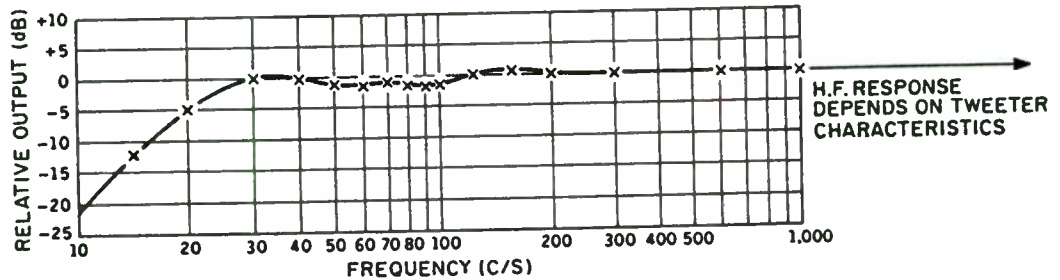

FIGURE 1: Dr. Bailey's Fig. 9 from his October 1965 *Wireless World* article. This graph was responsible for the birth of the B-Line.
On what was perhaps a whim, I revisited Dr. Bailey's original article in *Wireless World* ("A Non-Resonant Loudspeaker Enclosure Design," Oct. 1965). I was mainly interested in his Fig. 9 (Fig. 1 henceforth in this article), which showed the response curve of a commercial transmission-line (TL) system in which he was involved. He claimed the woofer had a free-air resonance of about 30Hz (in those days he said 30 c.p.s., since Hertz had yet to be honored).
Figure 1 shows a relatively smooth response to about 30Hz, rolling gradually off below that. At about 15Hz, it appears to be down about 12dB. He remarked that the resonant frequency of the speaker in the TL was just below 15Hz. The -10dB point seems to be about $0.52 F_{sa}$.
In Fig. 1, F_{sa} appears to be at 0dB. Immediately below that, the downward turn begins. F_3 appears to be at about $0.8 F_{sa}$, and F_{10} is about $0.65 F_3$. The point I'm trying to make is that Bailey's TL doesn't cut off at woofer F_{sa} , but, rather, about an octave below it.
There is a point a little farther down the response curve in Fig. 1, beyond F_3 , where the curve passes exactly through the -5dB and 20Hz intersection. $20\text{Hz}/30\text{Hz} = 0.667 F_{sa}$; this is the F_5 point. It's probably the most accurate reference I was able to make from his Fig. 1.